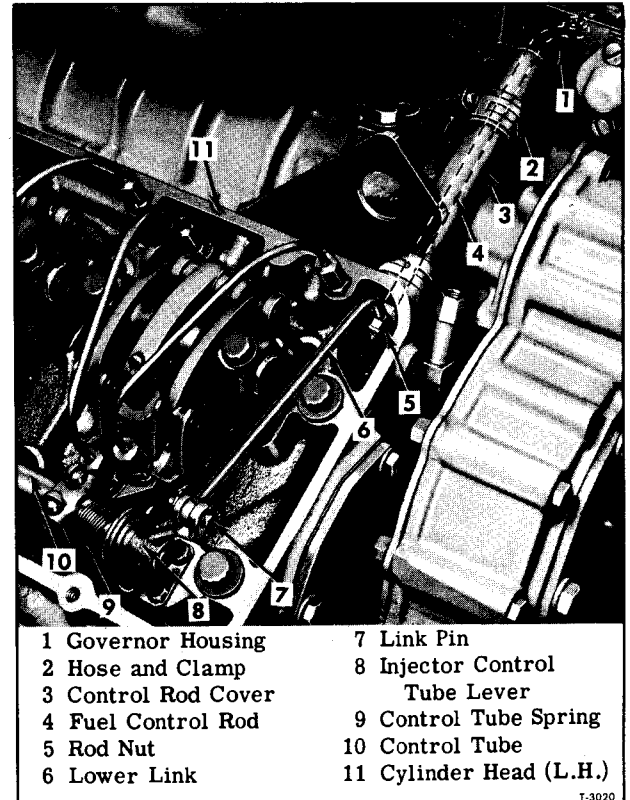
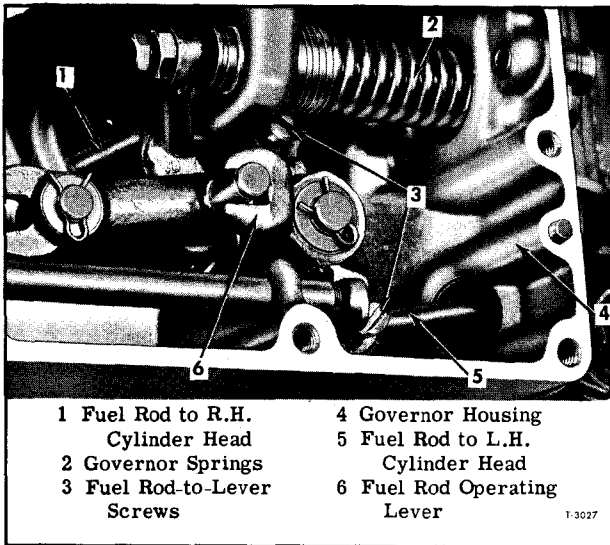

Figure 15—Fuel Rod and Link Installation
Figure 16—Governor Housing Cover Removed Showing Fuel Rod Connecting Screws
8. Remove cover from governor housing. Remove nut (5, fig. 15) from fuel rod, then remove
pin (7, fig. 15) attaching link to tube lever and remove link (6, fig. 15).
9. Inside governor housing (fig. 16), remove screw which attaches fuel rod to lever in housing, then remove rod.
(3, fig. 15).
4. Wipe bottom of cylinder head clean, then lower cylinder head (fig. 16) onto guide studs and down into contact with block. Lubricate threads and pressure area of bolt heads with International Compound #2 or equivalent, then start all cylinder head bolts. Beginning at camshaft side of cylinder head tighten head bolts lightly to overcome tension of cam follower springs.
9. Referring to figures 15 and 16, install fuel rod through opening in top of governor housing; pass rod through hoses, clamps, and tubular cover (used at left-hand head). Attach fuel rod to governor lever with screw (3, fig. 16) inside governor housing. Install governor housing cover with new gasket. Assemble hose and clamps to secure fuel rod cover.
10. Install fuel link between fuel rod and lever on control tube. Link is pinned to lever and secured to rod by nut (fig. 15).